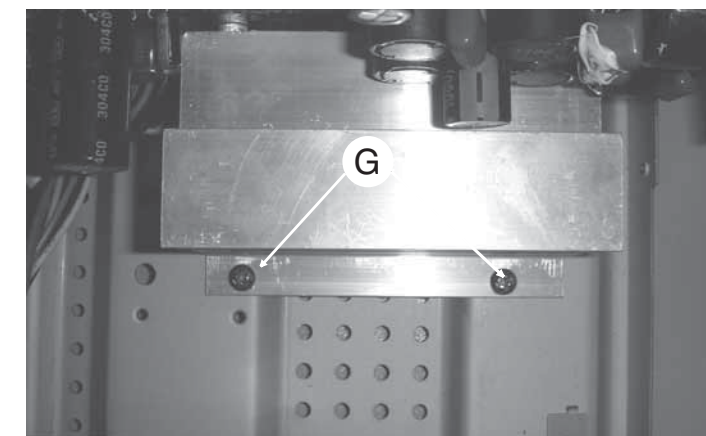

Figure 10
- 3) Release 2 screws 'G' on the heat sink as shown in Figure 10.